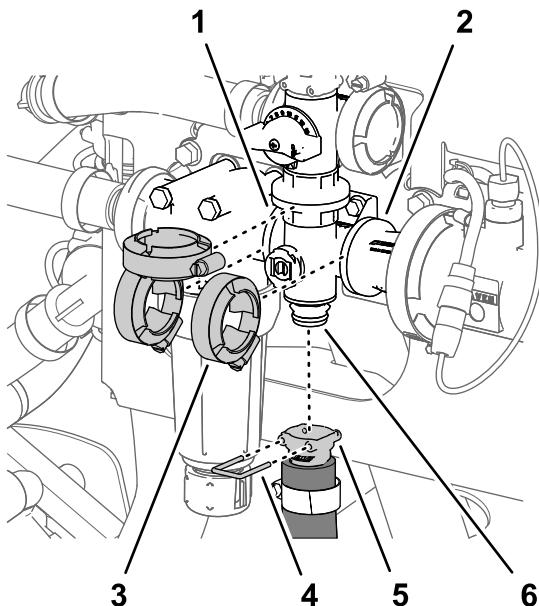

Figure 113
1. Remove the quick connect pin that secures the quick-connect coupler for the agitation hose to the manifold for the agitation valve (Figure 113).